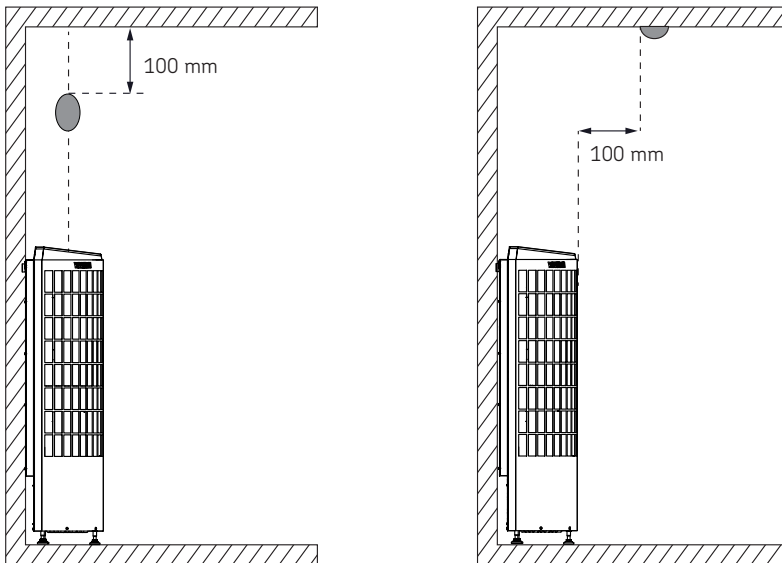

Figure 3. Installing the heat sensor
- Install the sensor (SP248) as shown in figure (Figure 3. Installing the heat sensor)